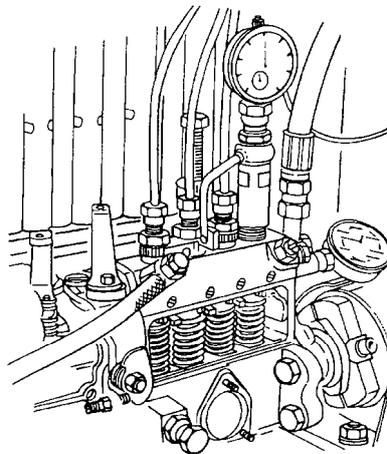

Figure 114 Installing the Pre-stroke Measuring Device
- h. Install the plunger pre-stroke measuring device (Table3, Items 32 and 33) into the bore of number one cylinder (Figure 114).